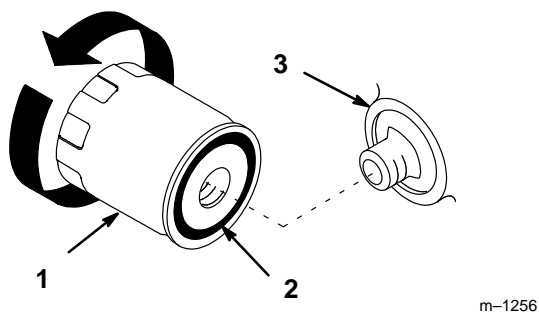

Figure 33
2. Remove the old filter and wipe the filter adapter (Fig. 33) gasket surface.
4. Apply a thin coat of new oil to the rubber gasket on the replacement filter (Fig. 33).
5. Install the replacement oil filter to the filter adapter. Turn the oil filter clockwise until the rubber gasket contacts the filter adapter, then tighten the filter an additional 1/2 turn (Fig. 33).